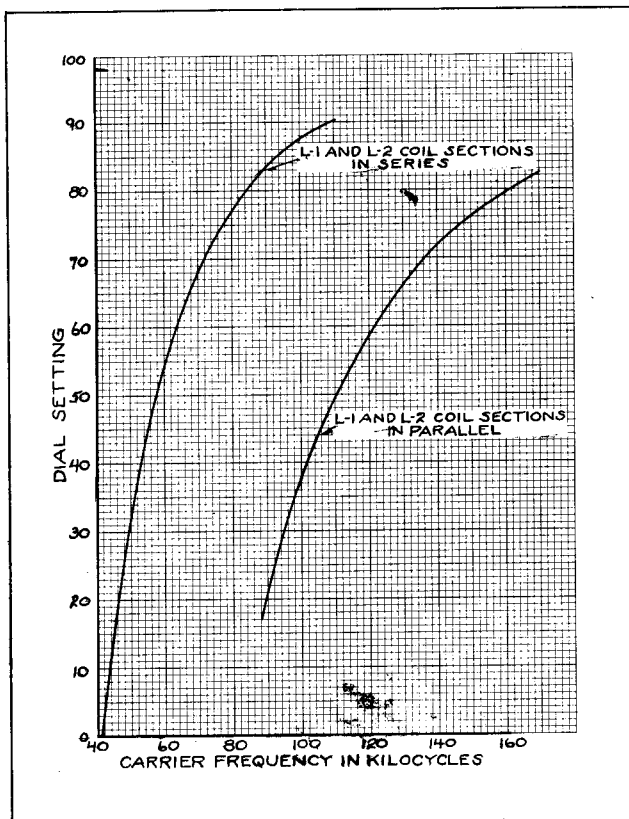

Fig. 3—Dial Calibration Curve of the 50-150 Kc Narrow Band Relay Receiver of the S#867935 Type JY Carrier Receiver.
- b. Set the PRIMARY TUNING NO. 1 and the SECONDARY TUNING NO. 1 dials for the desired frequency as indicated on dial calibration curves, Figs. 3 and 4. Use the "L1-L2 Sections in Series" curve on the 50-150 kc receiver for frequencies below 100 kilocycles and the "L1-L2 Sections in Parallel" curve for frequencies above 100 kilocycles. For exactly 100 kc the parallel connection is recommended. These curves show the approximate dial settings.